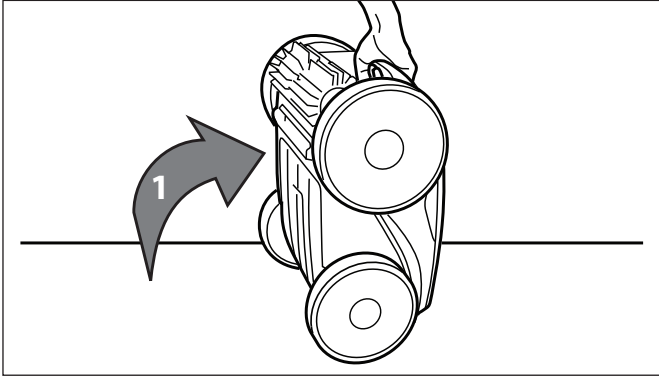

Figure 28. Cleaner in Upright Position
1. Lift the cleaner to a vertical position so that the handle is up (Figure 28).